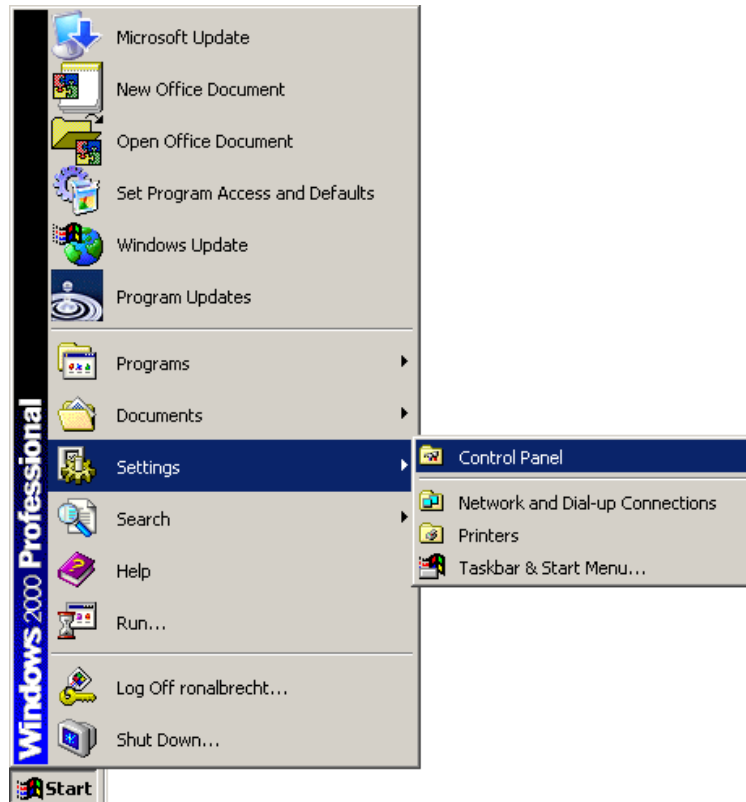

Figure 7-16: Windows Control Panel
Step 1: Open **Windows Control Panel** (Figure 7-16).